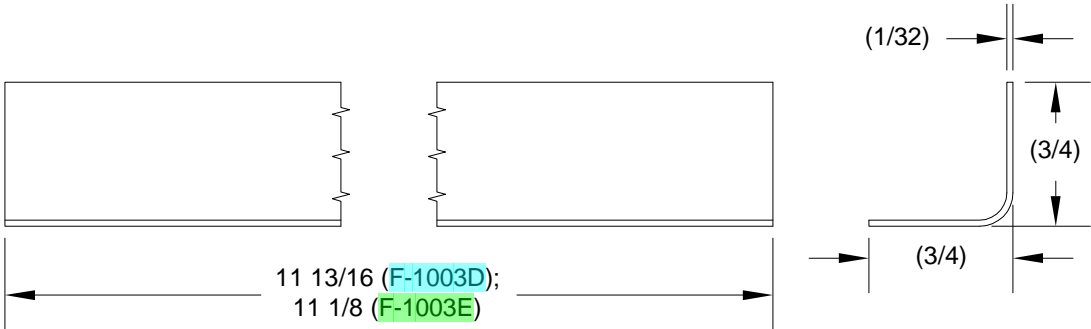

FIGURE 3: FABRICATE INST PANEL ATTACH FLANGES
Step 3: Fabricate the F-1003D and F-1003E Inst Panel Attach Flanges from AA3-032 x 3/4 x 3/4 as shown in Figure 3.